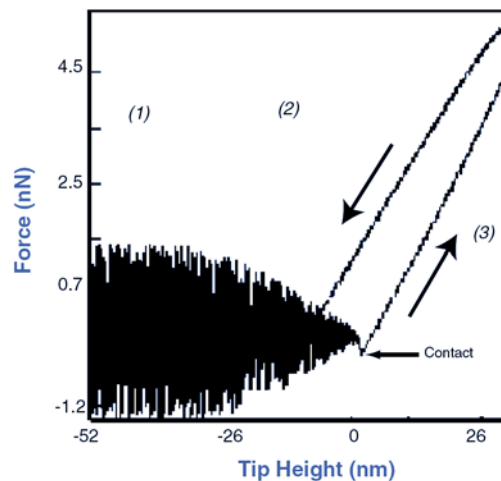

Figure 5.
4. Force curve acquisition_ By using the SPM 100 coupled with an AFM 100 and an external lock-in amplifier as described above, it is trivial to acquire force-distance curves while oscillating the cantilever. The vast amount of flexibility offered by the RHK instrument permits an ease in acquiring this type of data that is unmatched by any competitors. Simply setup a spectroscopy routine to ramp the distance while recording the Preamp input which, in this case, is the signal from the photodiode. This would be what the SPM 100 considers the tunneling current signal so it is like setting up the unit to perform I-Z spectroscopy if operating an STM. We recommend the acquisition of this type of force curve to guide the determination of the setpoint as well as optimizing modulation conditions. A typical force curve acquired under these conditions is shown in Figure 5.